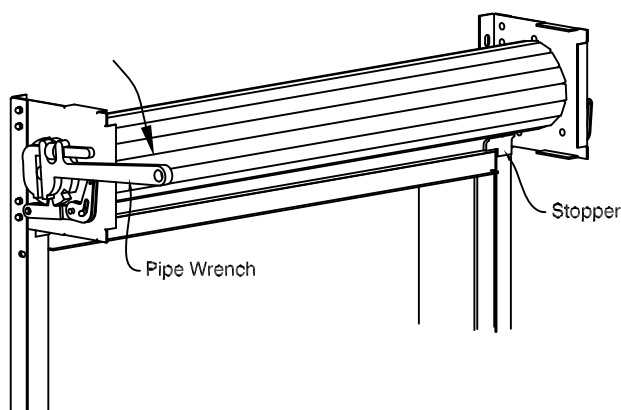

Fig. 17
- 1) Attach a pipe wrench to the charge side shaft, rotate the charge wheel until the bottom bar raises up to the bottom of the stoppers in the guide and remains in that position as shown in Fig. 17.